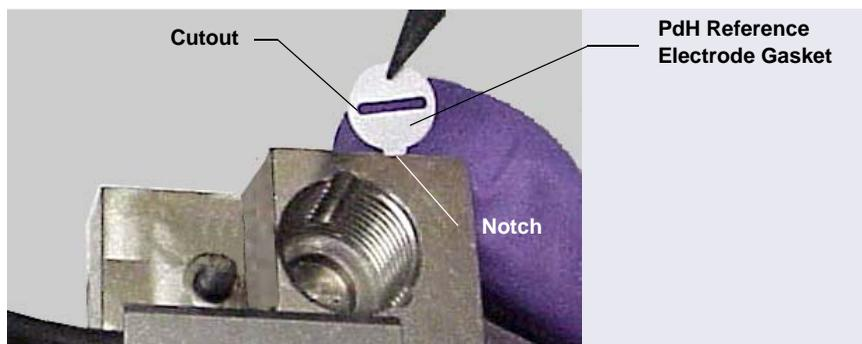

Figure B-15. *Installing the PdH Reference Electrode Gasket*
2. Using tweezers, grasp the edge of the PdH reference electrode gasket (P/N 072214) (see Figure B-15). To avoid deforming the gasket cutout, do not place the tweezer tips on the cutout.